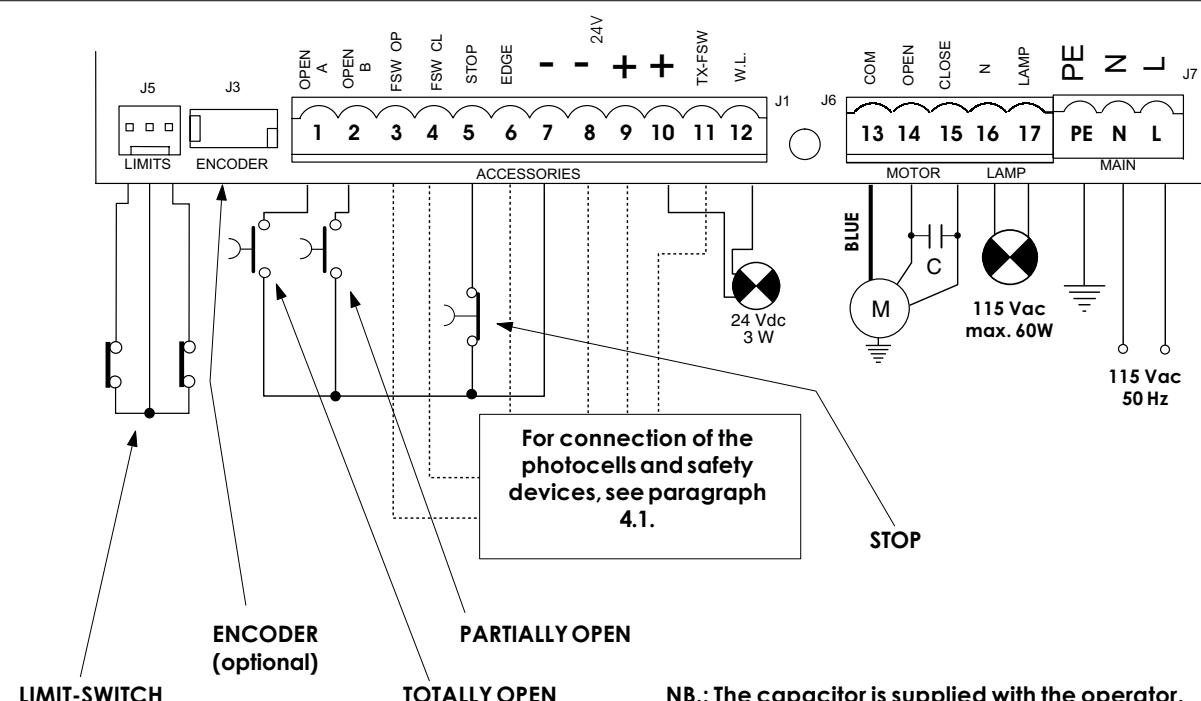

Fig. 2
- Connect the earth cable to the appropriate terminal on the J7 connector of the equipment (see fig. 2).
4.2. J7 Terminal board - Power supply (fig. 2)
4.3. J6 Terminal board - Motors and flashing lamp (fig. 2)
4.4. J1 Terminal board - Accessories (fig. 2)